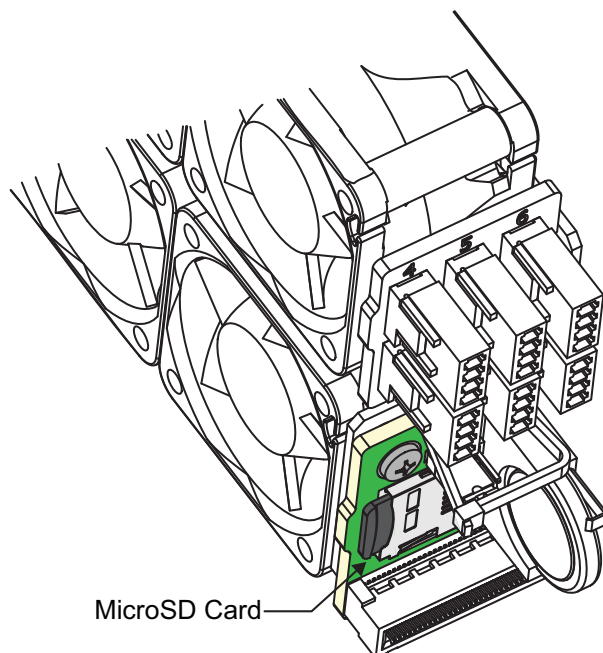

Figure 5 Location of Micro SD Card Slot — Between the Fan and the Fan Board
2. Locate the Micro SD card slot inside the failed Cooling Fan Module. Refer to **Figure 5**.
1. Locate the Micro SD card slot inside the new Cooling Fan Module. Refer to **Figure 5**.